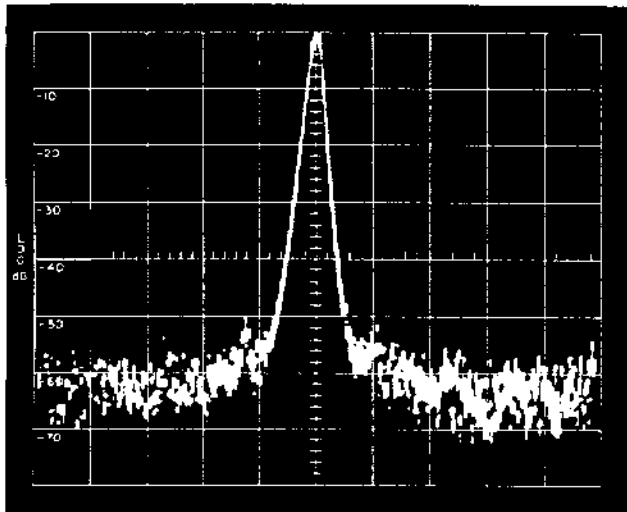
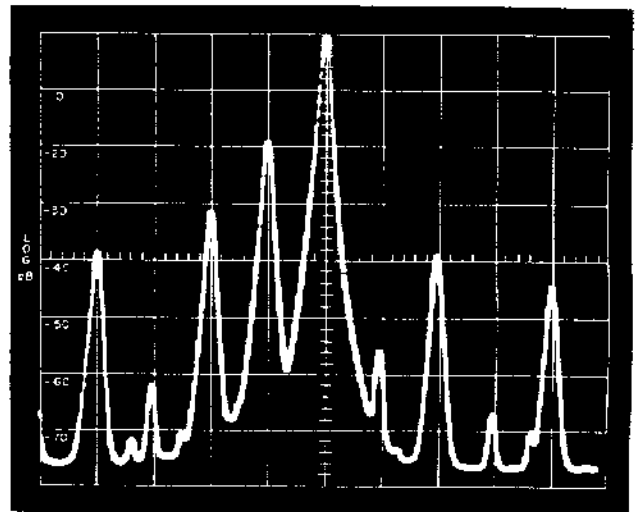

Figure 5-41. Typical Response, 2nd LO Narrow Band Spurious Products
Figure 5-42. Typical Response, 2nd LO Wide Band Spurious Products
(29) Refer to Figure 5-41 for a typical response.
(30) Set the spectrum analyzer controls to the conditions given in column B of step (28).
(31) Refer to Figure 5-42 for a typical response.
(32) If spectral purity in steps (29) and (31) differs too much from the typical response shown, repeat the maintenance procedure, making slight adjustments to the variable components.